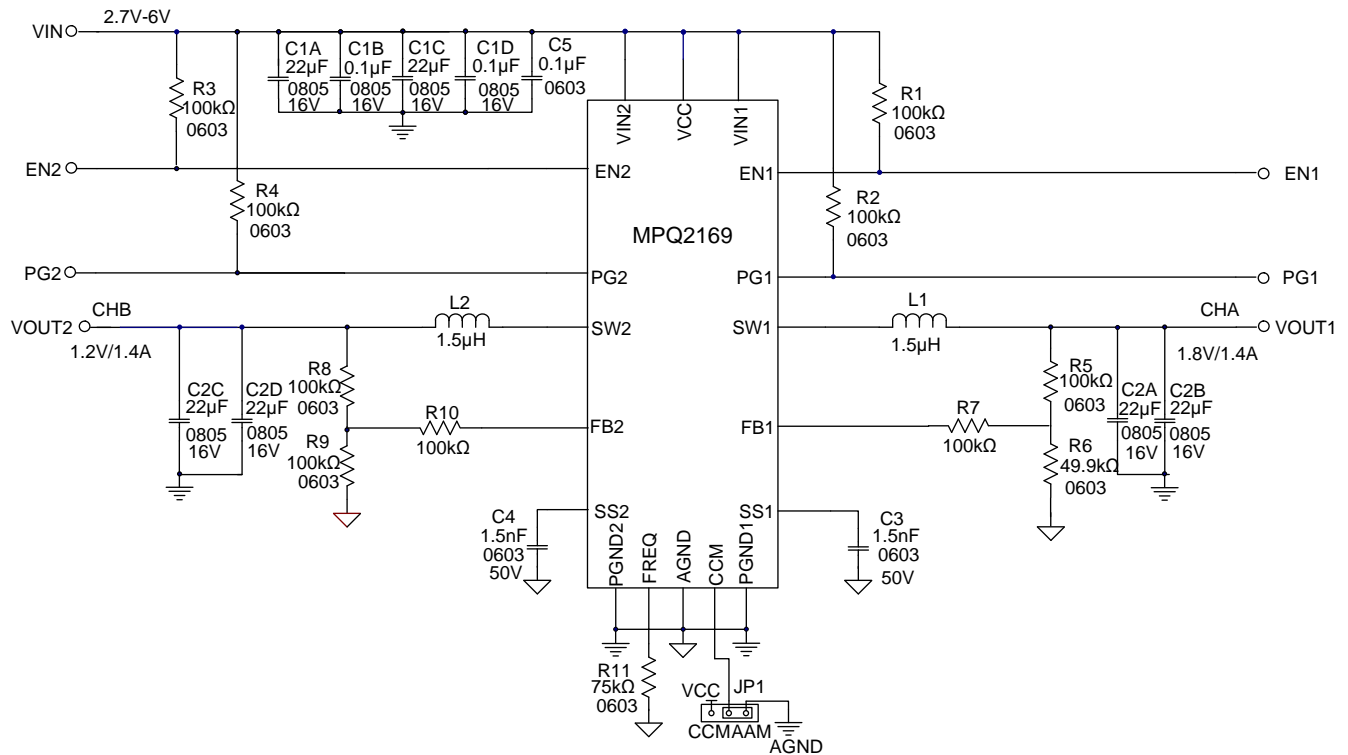

Figure 7: 1.4A/1.4A Application Circuit
8) The recommended PCB layout is based on Figure 7.